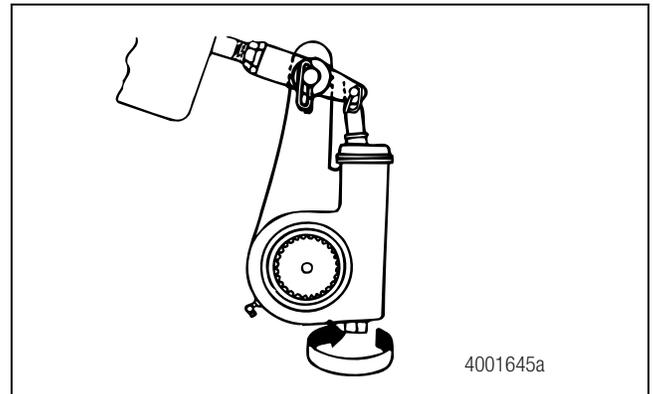

Figure 11.7
- A. Turn the manual adjusting nut on the slack adjuster in the direction shown in Figure 11.7 until the inboard lining touches the disc or rotor.